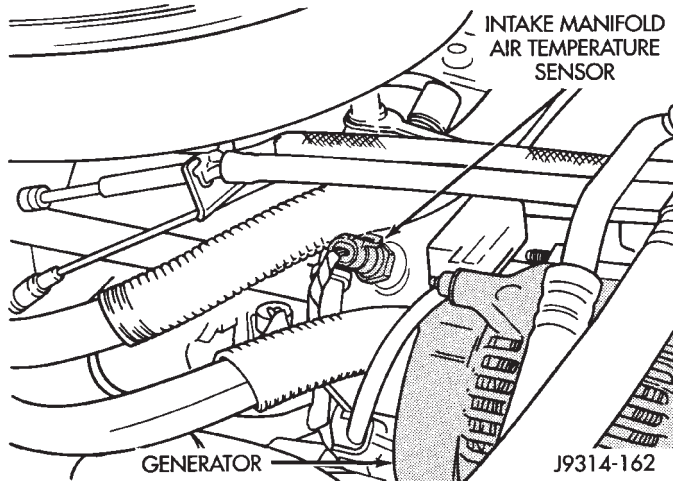

Fig. 89 Air Temperature Sensor—5.2L/5.9LEngines—Typical
The intake manifold air temperature sensor is located in the front/side of the intake manifold (Fig. 89).
- (1) Disconnect electrical connector at sensor (Fig. 89).
- (2) Remove sensor from intake manifold.